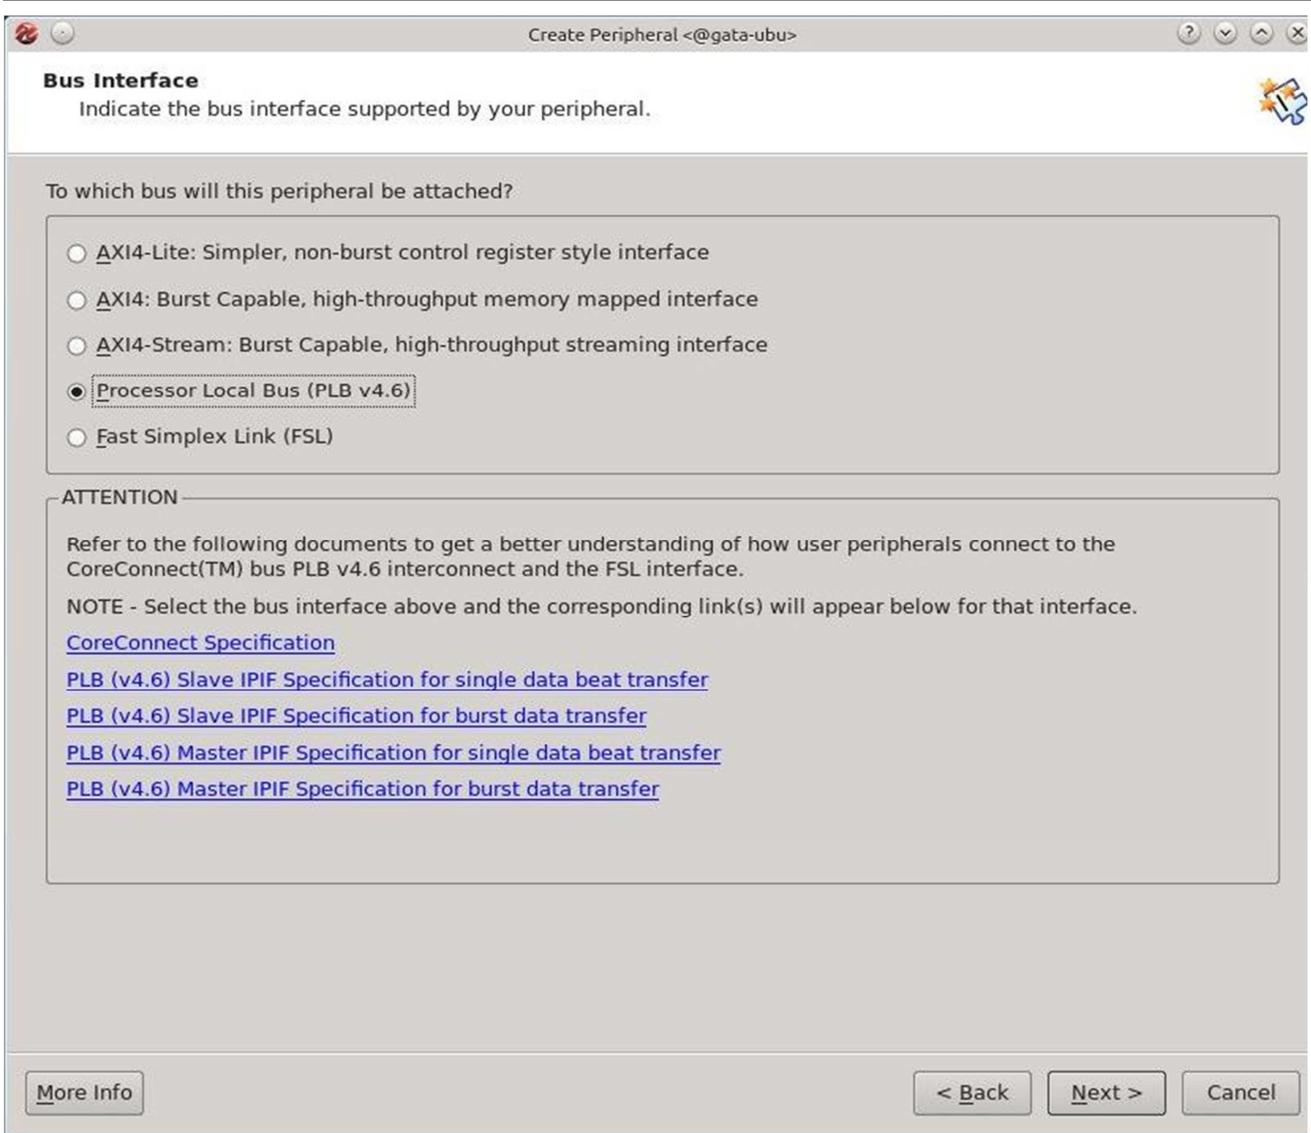

Figure 6: Create and Import Peripheral Wizard (Step 5)
Step 5: In this step you are required to select the interface type for your peripheral. Xilinx EDK supports 3 types of interface standards in its embedded systems. The first and the newest one is the AXI4 architecture which is designed for various types of communication strategies. The second type is the “**Processor Local Bus (PLB 4.0)**” which is a standard bus architecture to connect Microblaze and its peripheral in a shared bus structure. This bus standard will be used in this tutorial. The last interface type is the “**Fast Simplex Link (FSL)**” which is a dedicated FIFO link between the processor and the peripheral. The Microblaze supports a limited number of FSL links but this communication channel guarantees the fastest communication between the peripheral and the processor. Select the “**Processor Local Bus (PLB 4.0)**” as shown in **Figure 6** and then press “**Next**”.